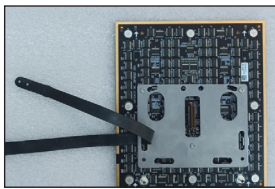

Figure 15: Slide Tether Through Slot
3. Slide the narrow end of the tether through one of the slots. Refer to **Figure 15**.